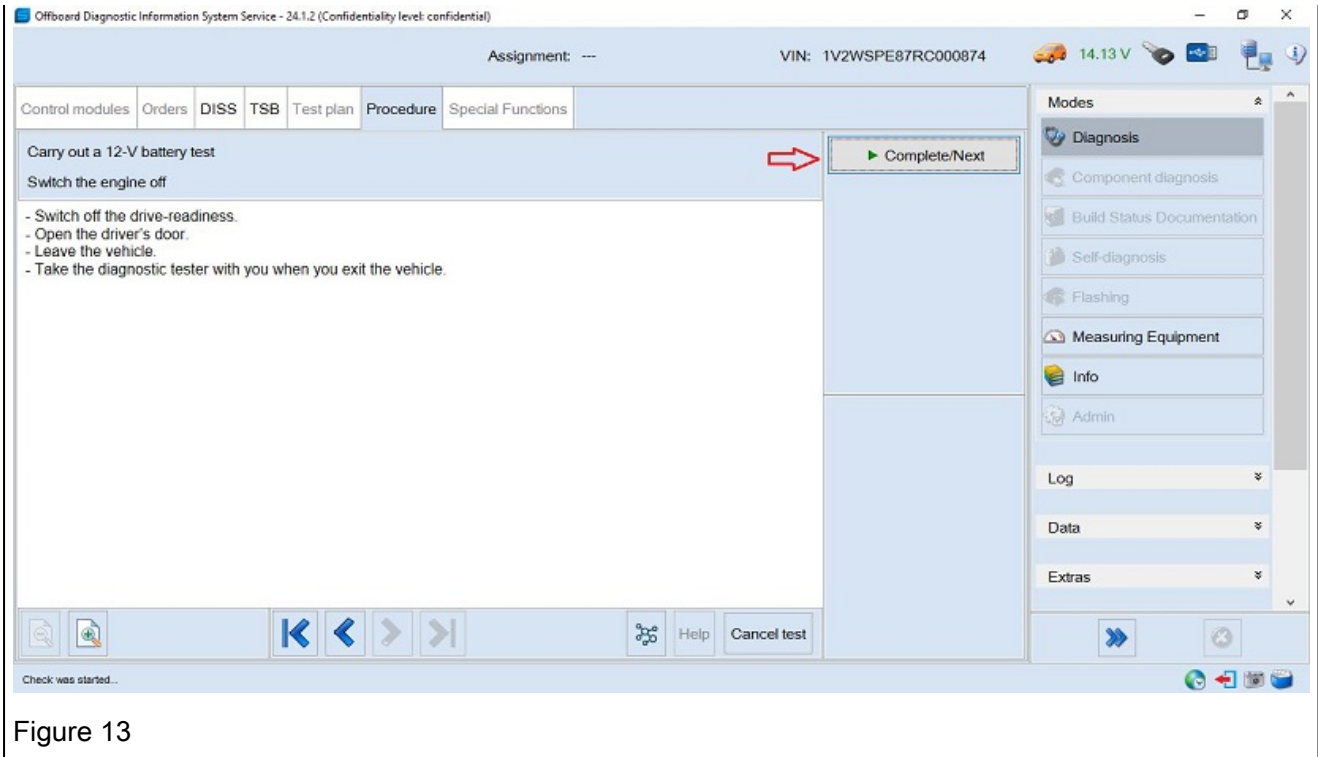

Figure 13
13. Follow the instruction provided, once complete, depress the Complete/Next button (Figure 13).